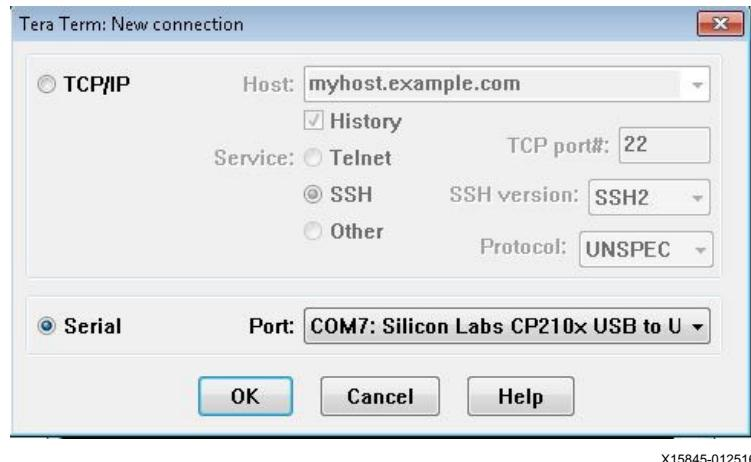

Figure 17: Selecting the Communications Port in Tera Term
1. Open a Tera Term serial connection at the relevant port (Figure 17) and baud rate (Figure 18).